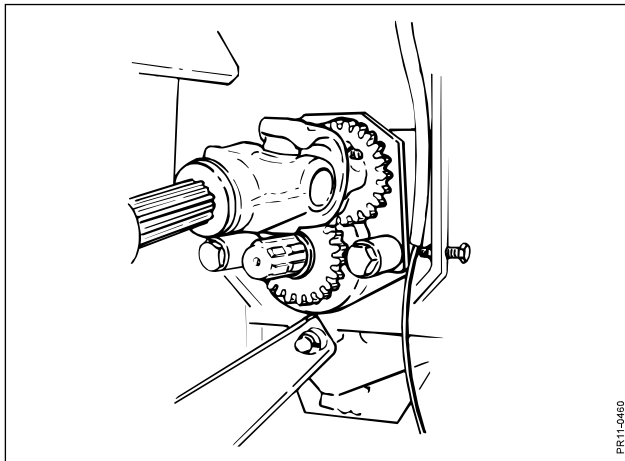

Fig. 4-22
- Fig. 4-22** 4. Mount the PTO drive shaft for the rotor on the free pin on the rotor housing. The PTO drive shaft must be fixed at position 2 whereby the rotor will rotate in the opposite direction.